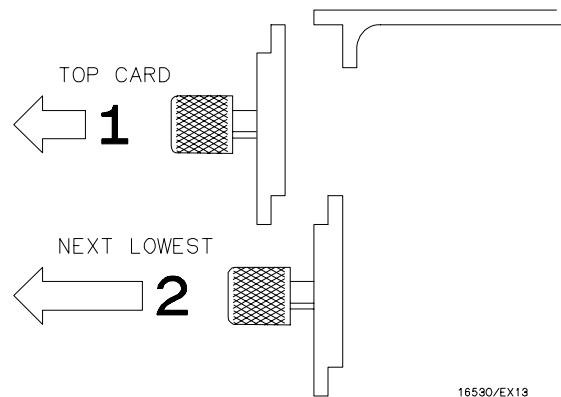

Figure 2-1. Endplate Overlap - Top Sequence
3. Starting **from the top**, begin pulling out the cards and filler panels **halfway**. See figure 2-1.